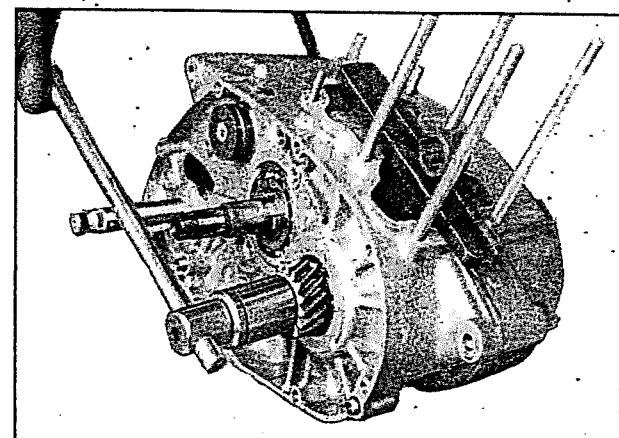

Fig 3.29
- Loosen the primary drive gear nut by using the special tool (fig 3.29)